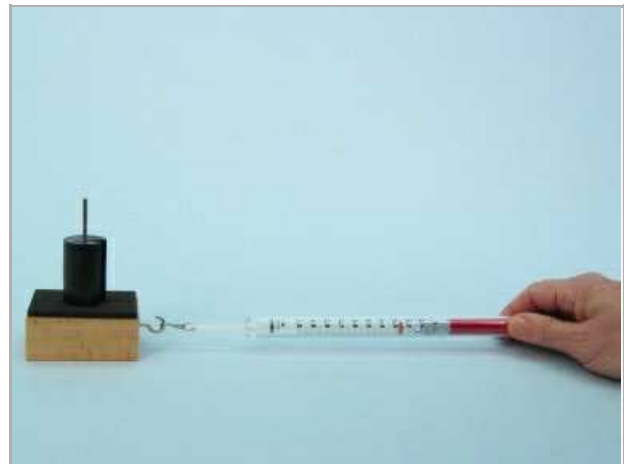

Fig. 6
- Repeat the experiment with 2 and then 3 mass pieces (50 g each) on the friction block (Fig. 6). In each case, record the value in Table 2.